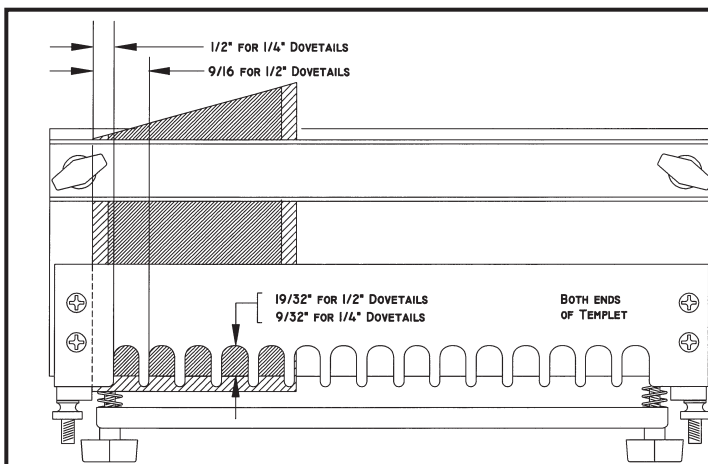
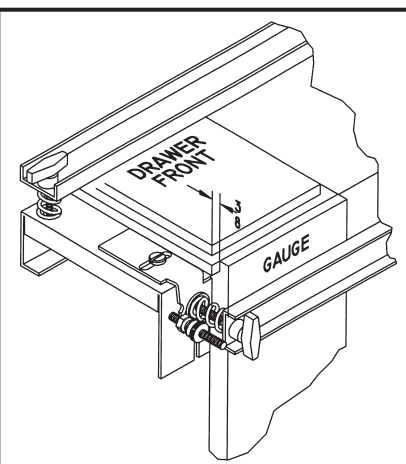

Fig. 17
Fig. 17A
1. Position drawer front "inside up" on top of Dovetail Fixture/Jig maintaining dimensions to templet shown in Fig. 17. A gauge block with a 3/8" rabbet may be used to position drawer front as shown in Fig. 17A.